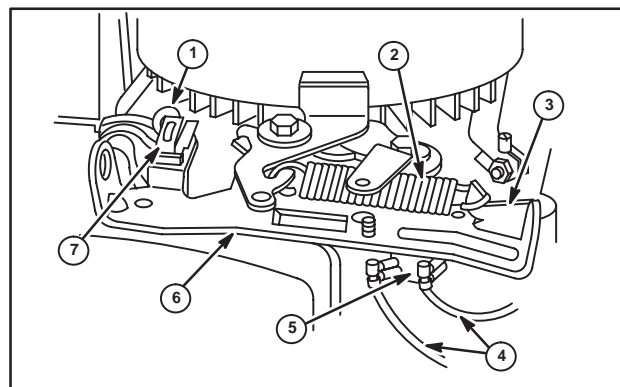

Fig. 128
- Disconnect spring (2) from brake anchor (3), Fig. 128.
- Disconnect stop switch wire (1) from stop switch.